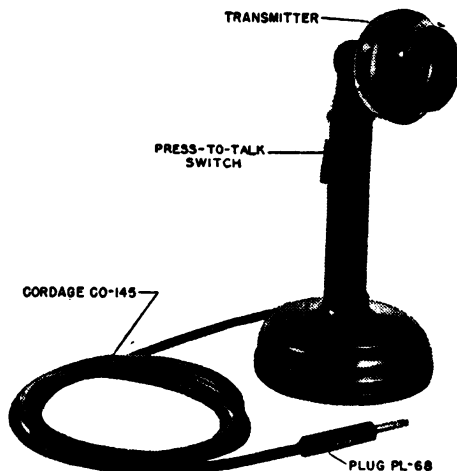

Fig. 3—Microphone T-32
d. **Microphone T-32**, figure 3, is a single button carbon-granule type microphone, mounted on a desk stand and equipped with a PRESS TO TALK switch. This switch, when operated, connects the microphone to the amplifier circuit and also energizes the keying relay in Control Unit RM-12-(\*). The microphone is equipped with a cord and plug for a jack connection to Control Unit RM-13-(\*).